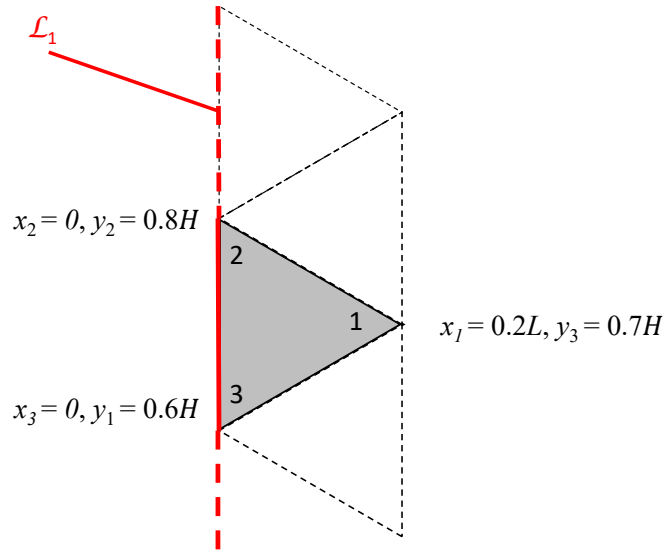

Figure 3: The shaded element with one edge along  $\mathcal{L}_1$  which is to be considered in Problem 2c.
Figure 2: Sketch of the 2D heat flow problem considered in Problem 2. Please note that a few elements of the mesh considered in subtask c) and shown in Figure 3 are also indicated in the figure.
- (c) Consider the shaded element in Figure 3 (also indicated in Figure 2). For this element, implement a MATLAB function that computes the two convective element contributions (one load vector contribution and one stiffness1 matrix contribution) given the following input: **(2.5p)**